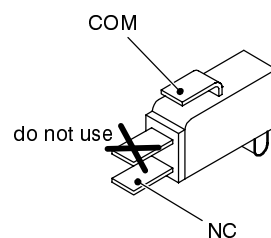

fig. 62
- 7 Connect the switch using the correct terminals (fig. 62).